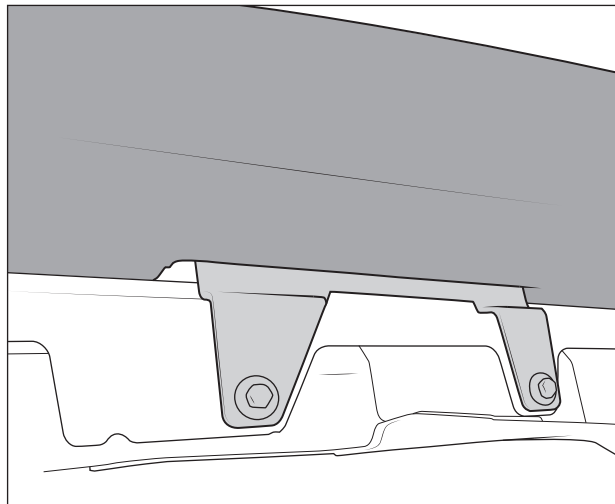

Figure 10
5. Loosely install two rear fender bolts into large snorkel bracket and tighten until just snug enough to hold snorkel body in place (fig. 10).